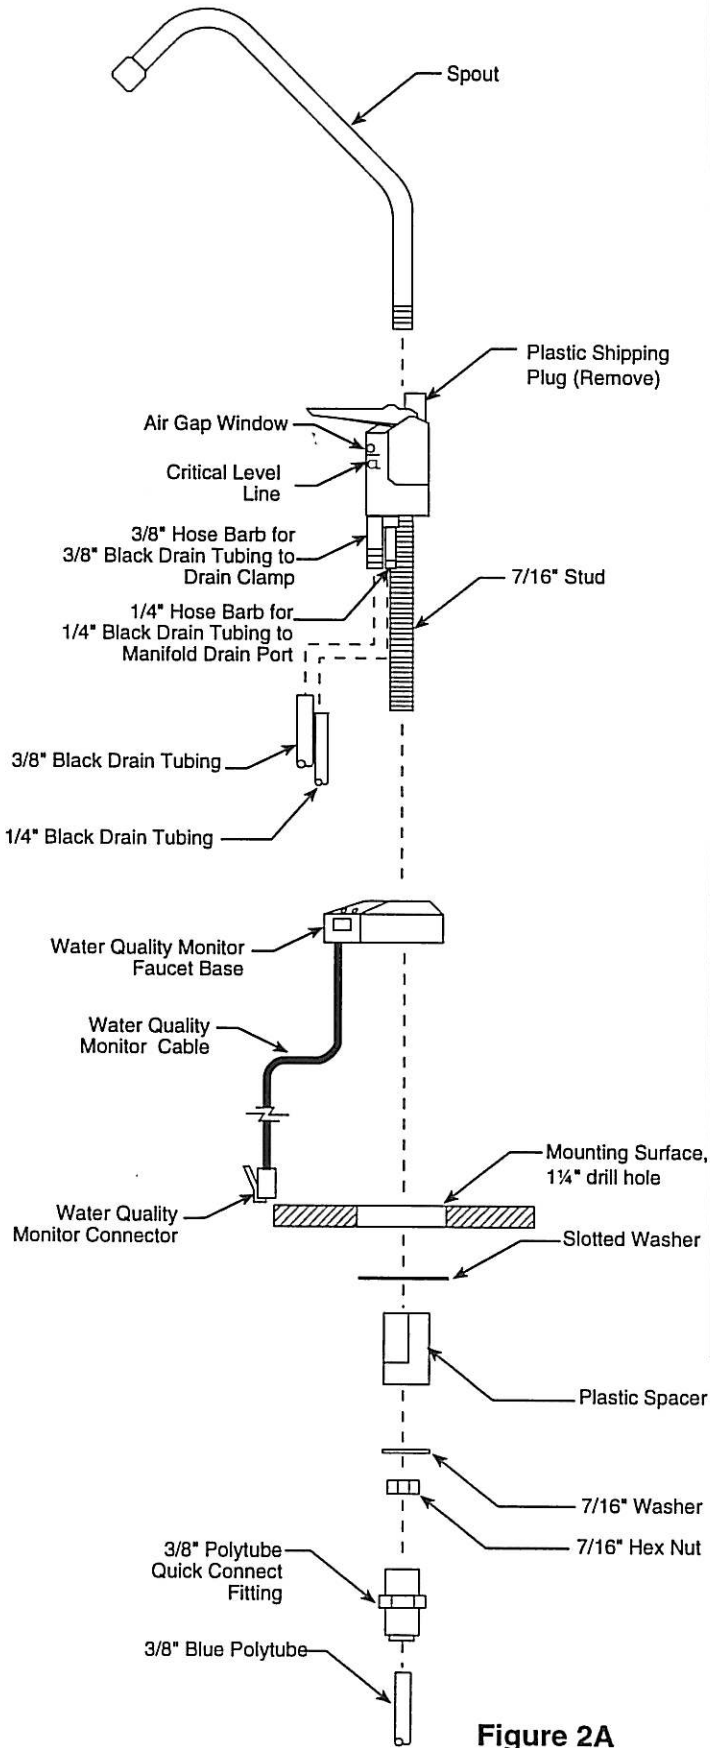

Figure 2A
3. Assemble and attach the Faucet, Water Quality Monitor Faucet Base and tubing (refer to Fig. 2A & 2B, page 7.)
- Slide Water Quality Monitor Faucet Base over $\frac{1}{4}$ " Black Drain Tubing, $\frac{3}{8}$ " Black Drain Tubing and $\frac{7}{16}$ " stud screw and seat with Amber/Green LED's aligned under Air Gap Window on Dispensing Faucet. (See Figure 2A, page 7.)
- Check the Air Gap Window on the Dispensing Faucet to be sure that the drain water is flowing. (Refer to Figure 2A, page 7.) The R.O. System is now making water.